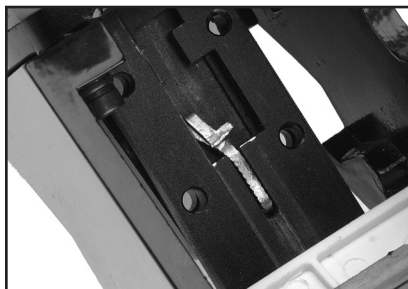

Figure 7. Jammed nail in discharge area.
5. Remove the jammed nail (**Figure 7**) with a pair of needle nose pliers, then replace the magazine.